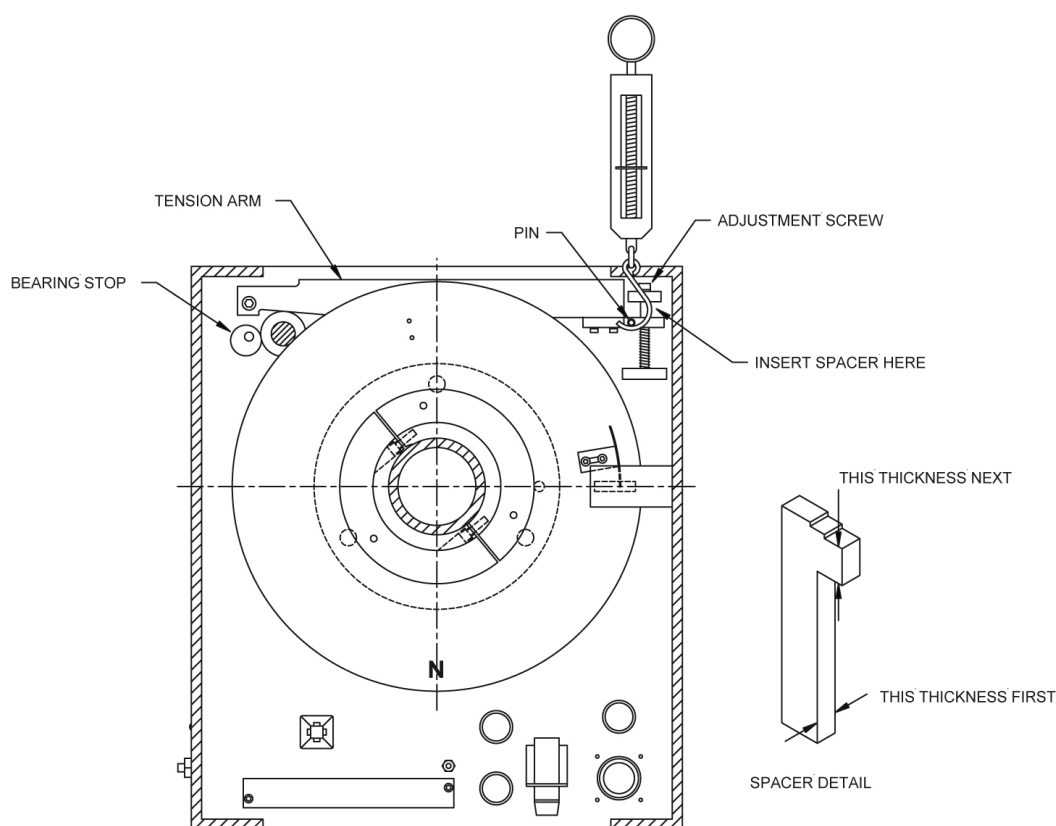

Figure 5.2. Tracker Drive Mechanism
**Tracker Drive Mechanism** - See Figure 5.2